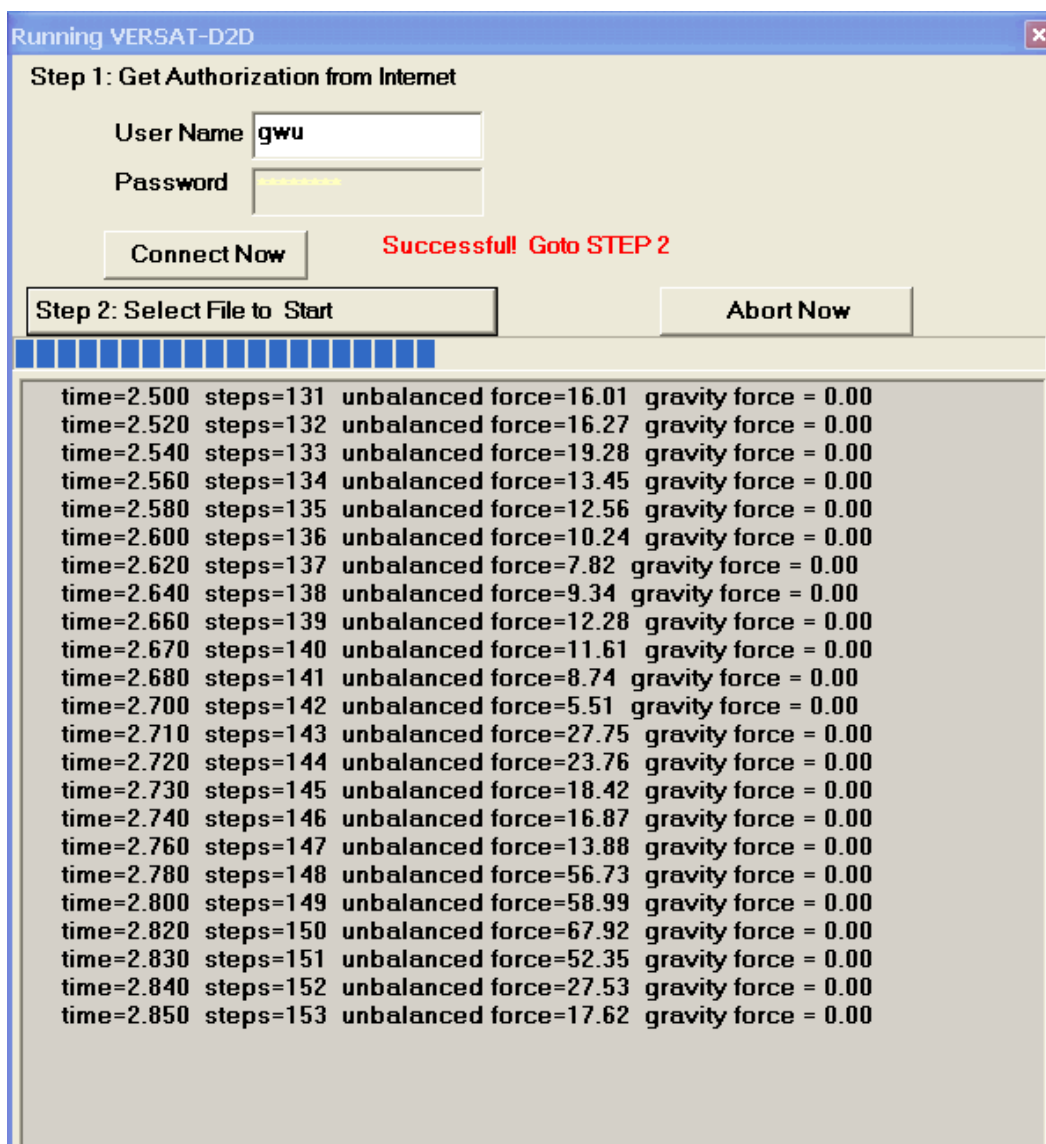

Figure 4.4 A window showing a dynamic run in progress
- Select the input file "*run3.dyn*" to run after "*Successful! Goto STEP 2*" in red is obtained as shown in Figure 4.4.